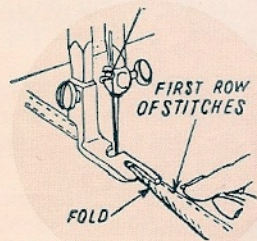

Fig. 31
4. Fold over the edges to the left and insert them into the scroll of the hemmer foot. Sew as you would do ordinary hemming. Use left edge of long toe of hemmer foot as guide, having original seam run alongside of it (Fig. 31).